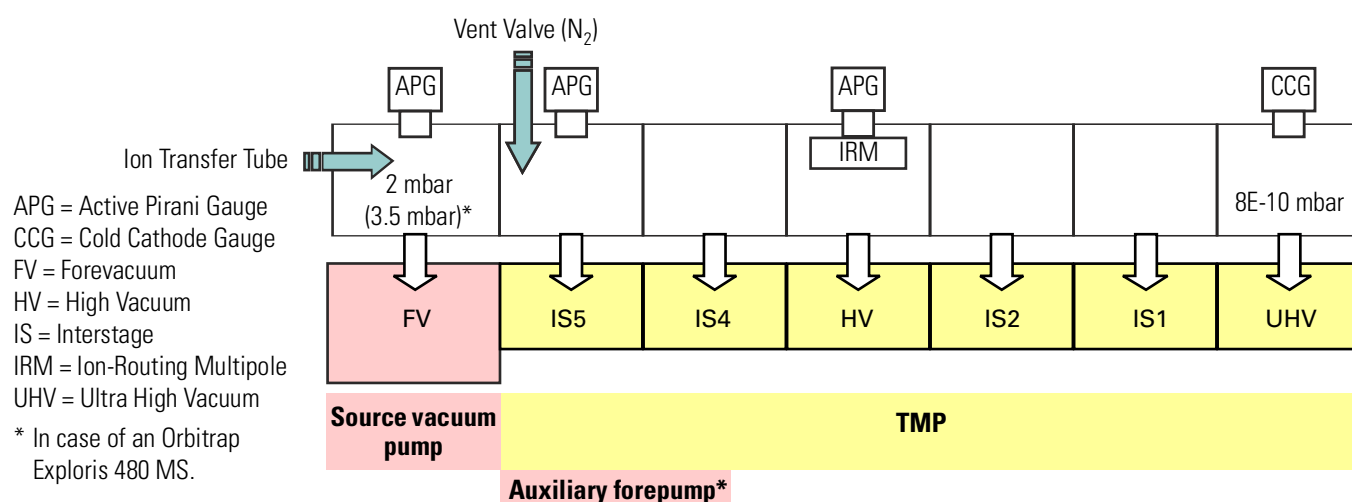

Figure 3-24. Schematic of vacuum system in Orbitrap Exploris Series MS
The vacuum manifold encloses the ion source interface, the ion guides, the C-Trap, and the Orbitrap analyzer. The vacuum manifold consists of thick-walled aluminum chambers with machined flanges on the front, the sides, and the bottom, and various electrical feedthroughs and gas inlets. The vacuum manifold is divided into seven chambers. The region inside the first chamber, called the S-lens region or funnel region, is evacuated by an external roughing pump (source vacuum pump). An internal six-stage turbomolecular pump (TMP) applies a vacuum of increasing quality along the other six regions, the sixth region being evacuated by the UHV stage of the TMP. Figure 3-24 shows a schematic overview of the vacuum system, Table 3-7 shows the vacuum regions of the mass spectrometer.
The vacuum manifold is vented when external power is removed from the instrument. (Power is removed from the instrument by a power failure or by placing the main power circuit breaker in the Off (O) position.) After the external power is removed, power is provided to the vent valve until the rotational speed of the TMP is reduced sufficiently to allow controlled venting of the instrument. If external power is not restored to the instrument in this time, power to the vent valve solenoid is shut off. When power to the vent valve solenoid is shut off, the vent valve opens and the manifold is vented with nitrogen. See Figure 3-24 on page 3-37. The vent valve closes after power is restored to the instrument.